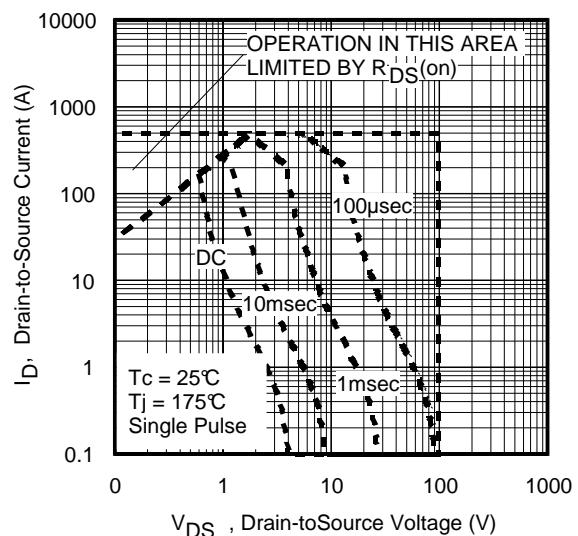

Fig 11. Maximum Safe Operating Area
- $Z_{thJC}(D, t_{av})$ = Transient thermal resistance, see figure 11)